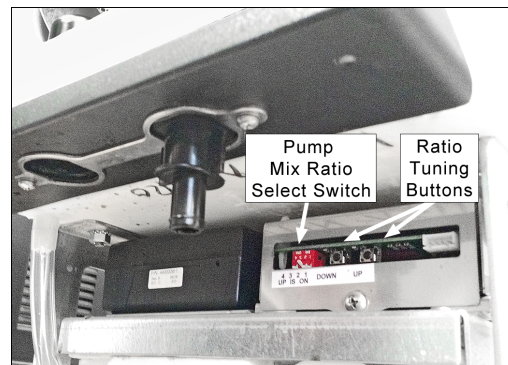

Figure 3-8 - Ratio Select Switch & Tuning Buttons
Mixing ratios are adjusted by changing the DIP switch settings on the Main PCB mounted beneath the cabinet, as shown in Figure 3-8. Adjustment of these settings changes the speed of the peristaltic pump to provide more or less concentrate per unit time.
**Dispense Motor:** A 3-position switch for normal operation (ON), system shutoff (OFF) and for performing sanitizing procedures (CLEAN). In CLEAN mode, this switch sets the concentrate pump to the water/cleaning-agent mixing ratio (5:1). When the switch is returned to the ON position, the mixing ratio returns to that selected on the pump mix-ratio switch bank (Fig. 3-8).